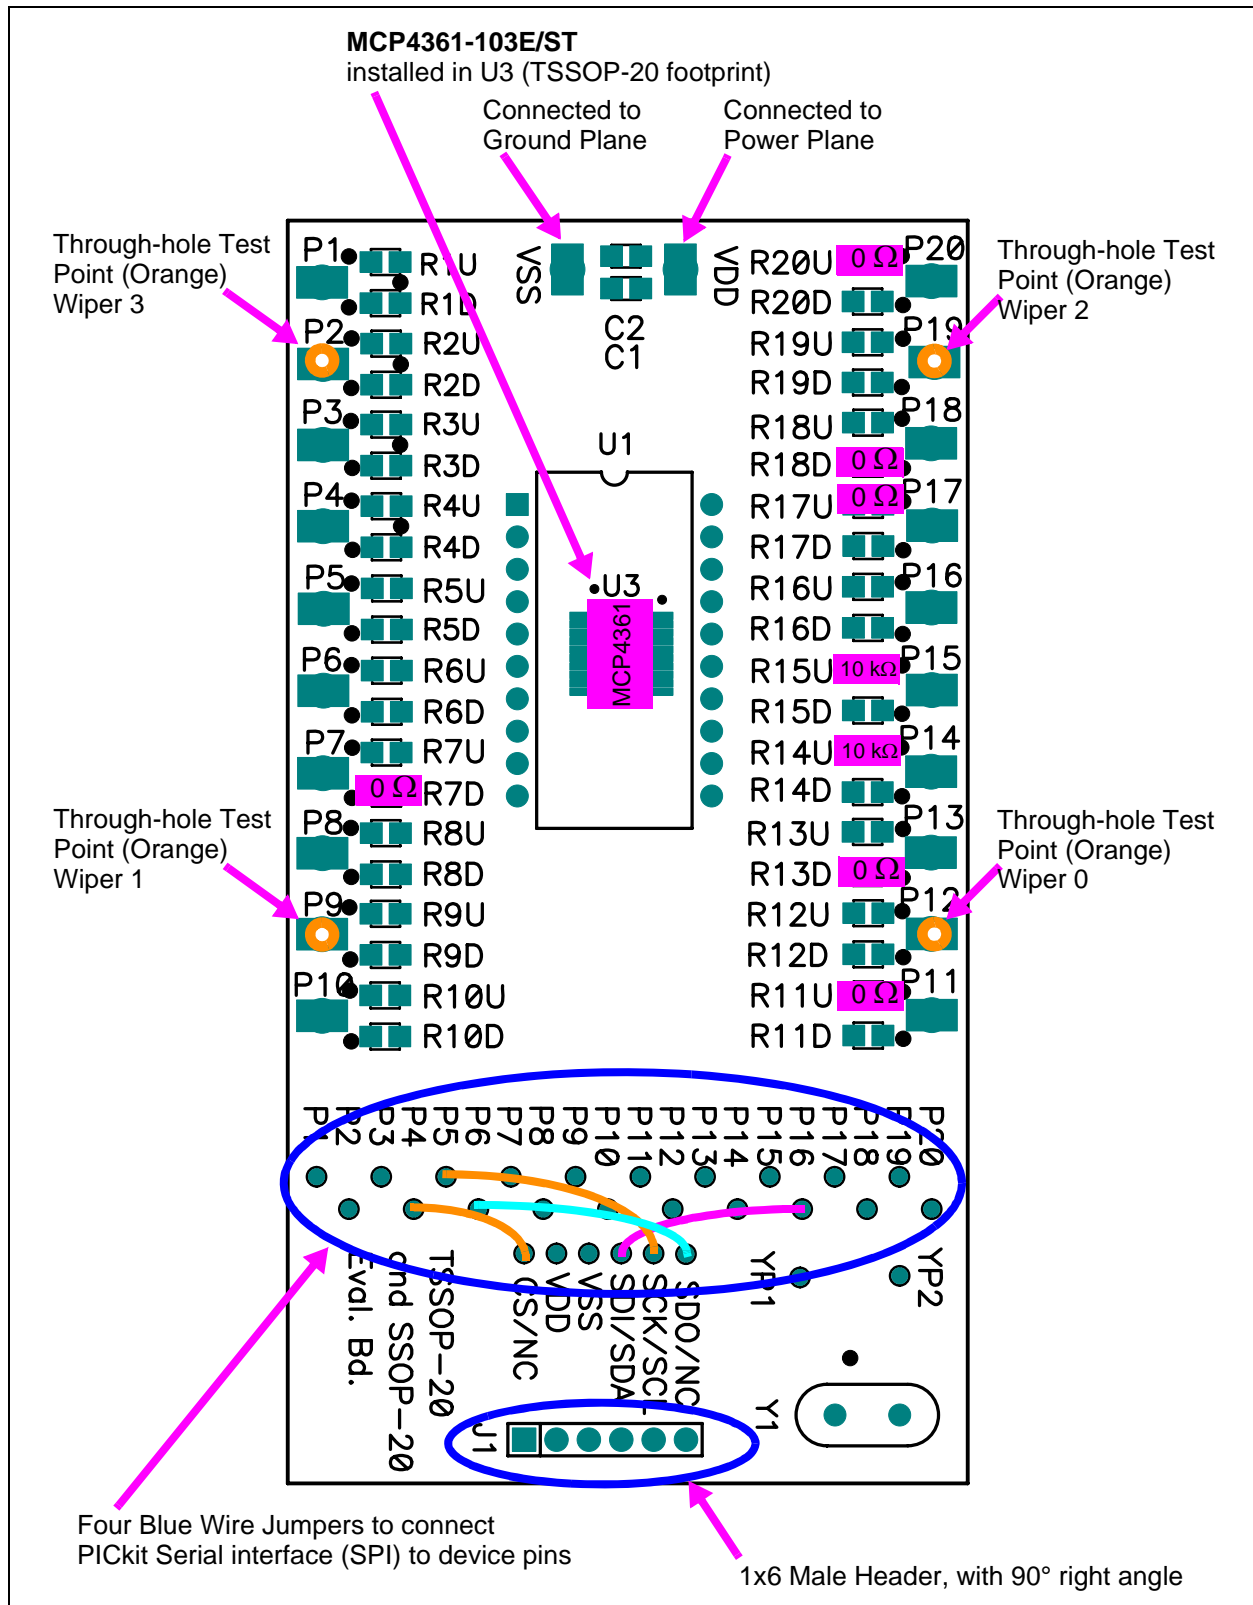

FIGURE 2-2: MCP43XXEV Evaluation Board Component Placement Using the TSSOP20EV Evaluation Board (Top).
Appendix A. "Schematic and Layouts" has information of the PCB schematic and layout while Figure 2-2 shows components that are installed on the PCB.
- 0Ω resistors connect MCP4361 V_{DD} and V_{SS} signals to the appropriate Power or Ground plane (see Figure 2-2)
- 0Ω resistors connect MCP4361's Resistor Network 0 and 2 A terminal signal to Power plane, Resistor Network is in a voltage divider configuration (see Figure 2-2)
- 0Ω resistors connect MCP4361's Resistor Network 0 and 2 B terminal signal to Ground plane, Resistor Network is in a voltage divider configuration (see Figure 2-2)
Figure 2-2 shows the component layout of the MCP43XXEV Evaluation Board. This is a small four-layer board (3.9" x 2.1" (99.06 mm x 53.34 mm)). There are twenty two connection points/pads that can use either through-hole or surface-mount connector posts.